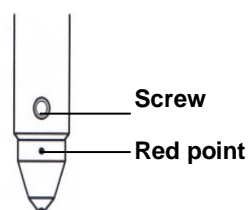

Figure 6-17 Installing an indenter
1. Carefully insert the indenter shank into the installing hole and the red point should face towards you. Refer to Figure 6-17.